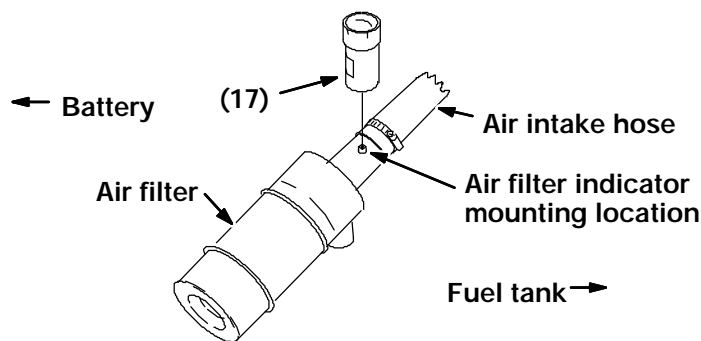

FIG. 1 - Installation of Air Filter Indicator on Engine Air Filter
(Refer to FIG. 1)
6. Screw the air filter indicator into the nipple on the backside of the filter. (Refer to FIG. 1)